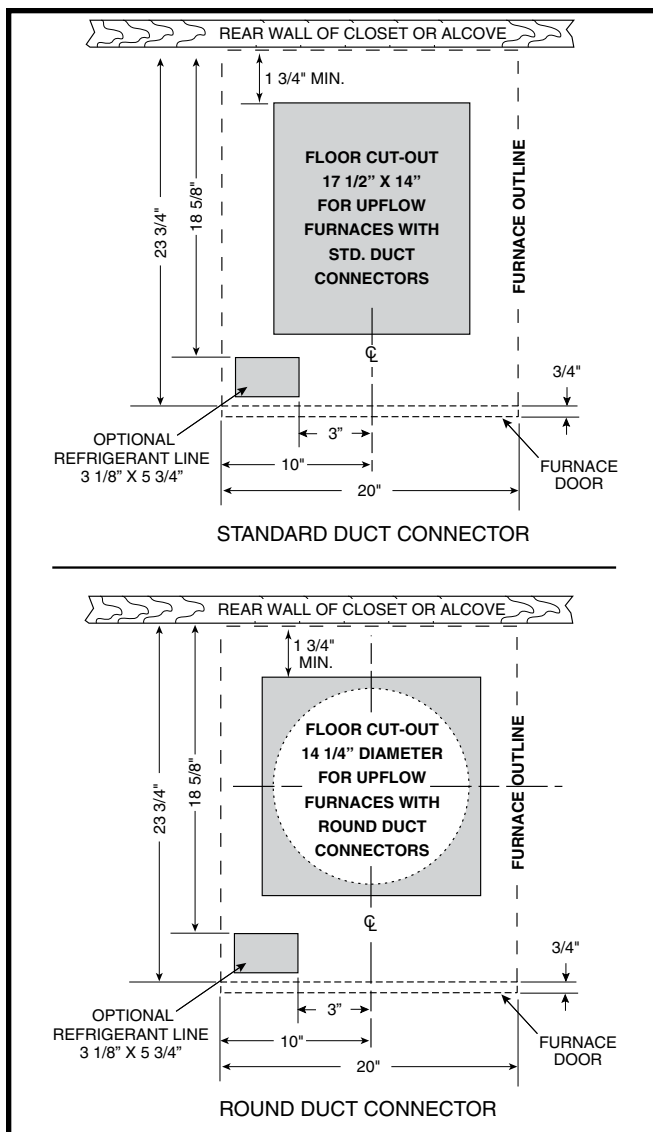
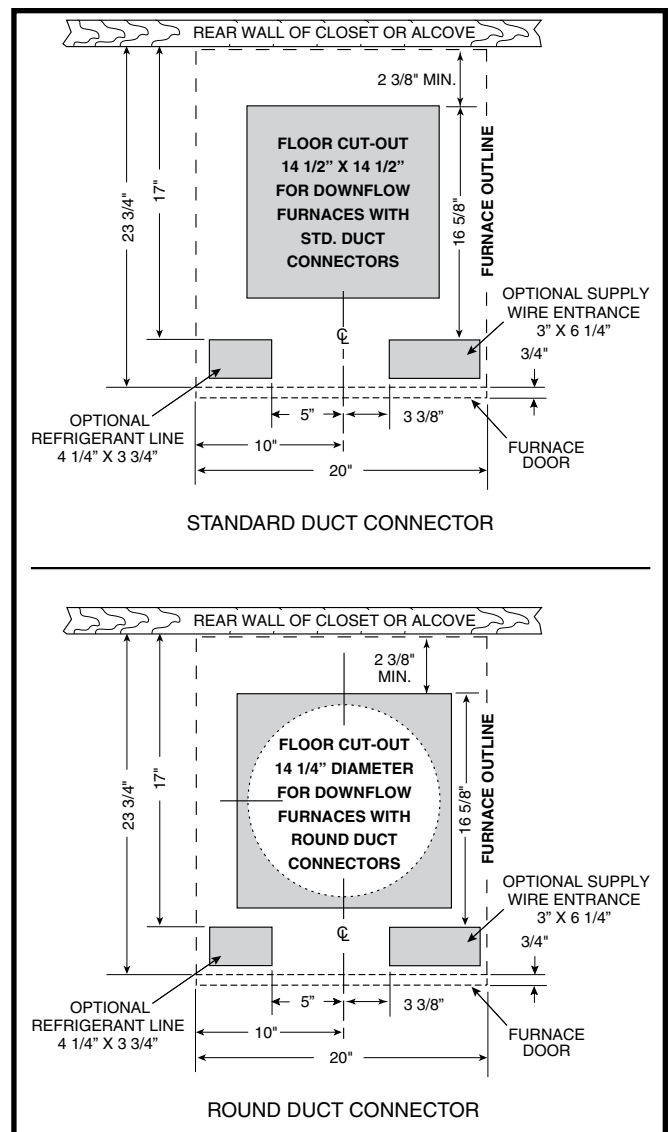

Figure 5. Cut-Out Dimensions for Upflow Furnaces
Figure 6. Cut-Out Dimensions for Downflow Furnaces
Floor cut-outs must be carefully located to avoid misalignment of the furnace and air duct. Standard and round cutouts for upflow furnaces are shown in Figure 5. The cutouts for downflow furnaces are shown in Figure 6.
2. Using the centerline as a starting point, draw the rest of the duct cut-out to the dimensions shown in Figure 5 or Figure 6.
- a. Mark floor openings as shown in Figure 5 \(page 9\). Provide minimum clearances at rear and left side walls of closet for installation of furnace and wiring.